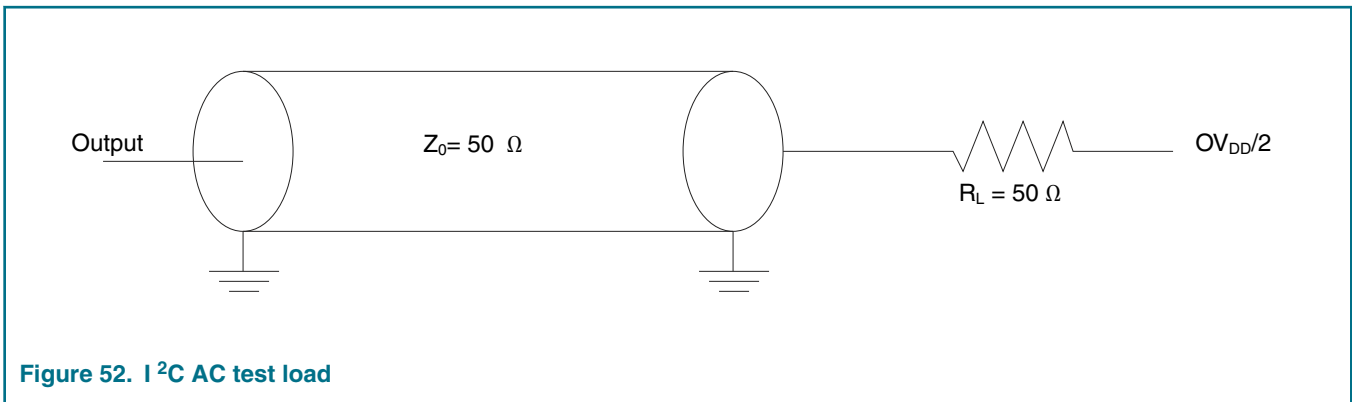
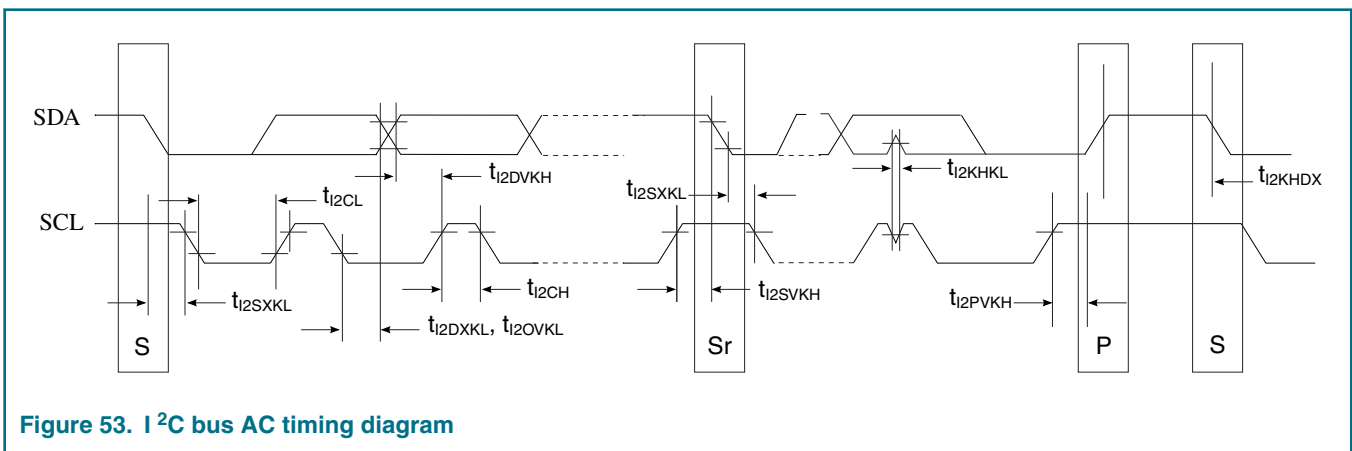

Figure 52. I²C AC test load
Figure 53. I²C bus AC timing diagram
<p>1. As a transmitter, the chip provides a delay time of at least 300 ns for the SDA signal (referred to the V_{IHmin} of the SCL signal) to bridge the undefined region of the falling edge of SCL to avoid unintended generation of a START or STOP condition. When the chip acts as the I²C bus master while transmitting, it drives both SCL and SDA. As long as the load on SCL and SDA are balanced, the chip does not generate an unintended START or STOP condition. Therefore, the 300 ns SDA output delay time is not a concern.</p> <p>2. The maximum t_{I2OVKL} has to be met only if the device does not stretch the LOW period (t_{I2CL}) of the SCL signal.</p> <p>3. The symbols used for timing specifications herein follow these patterns: $t_{(first\ two\ letters\ of\ functional\ block)(signal)(state)(reference)(state)}$ for inputs and $t_{(first\ two\ letters\ of\ functional\ block)(reference)(state)(signal)(state)}$ for outputs. For example, t_{I2DVKH} symbolizes I²C timing (I2) with respect to the time data input signals (D) reaching the valid state (V) relative to the t_{I2C} clock reference (K) going to the high (H) state or setup time. Also, t_{I2SXKL} symbolizes I2C timing (I2) for the time that the data with respect to the START condition (S) went invalid (X) relative to the t_{I2C} clock reference (K) going to the low (L) state or hold time. Also, t_{I2PVKH} symbolizes I2C timing (I2) for the time that the data with respect to the STOP condition (P) reaches the valid state (V) relative to the t_{I2C} clock reference (K) going to the high (H) state or setup time.</p> <p>4. See Figure 52. on page 162.</p> <p>5. See Figure 53. on page 162.</p>